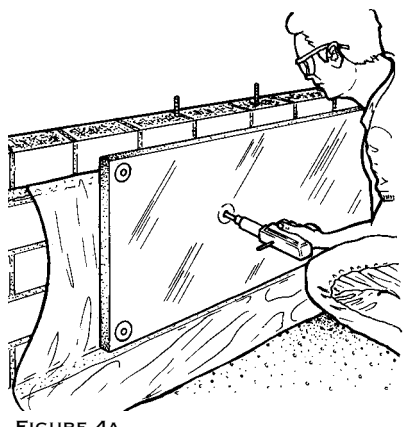

FIGURE 4A
2. Fasten the THERMAX™ or STYROFOAM™ brand insulation boards to the interior of the crawl space wall using power-driven masonry nails with 1-inch washers or caps. The boards shall be permanently fastened to the interior of the stem wall and extend downward from the top of the stem wall to the exterior finished grade level and then vertically and/or horizontally for at least 24 inches. In some situations, an inspection strip may be appropriate. An inspection strip is a 2-inch to 3-inch strip around the top of the stem wall without insulation, which allows inspection for termites. (Check with your local code officials and pest control operators regarding this option.) Space fasteners approximately 2 feet on center vertically and 4 feet on center horizontally. (See Figure 4a.)